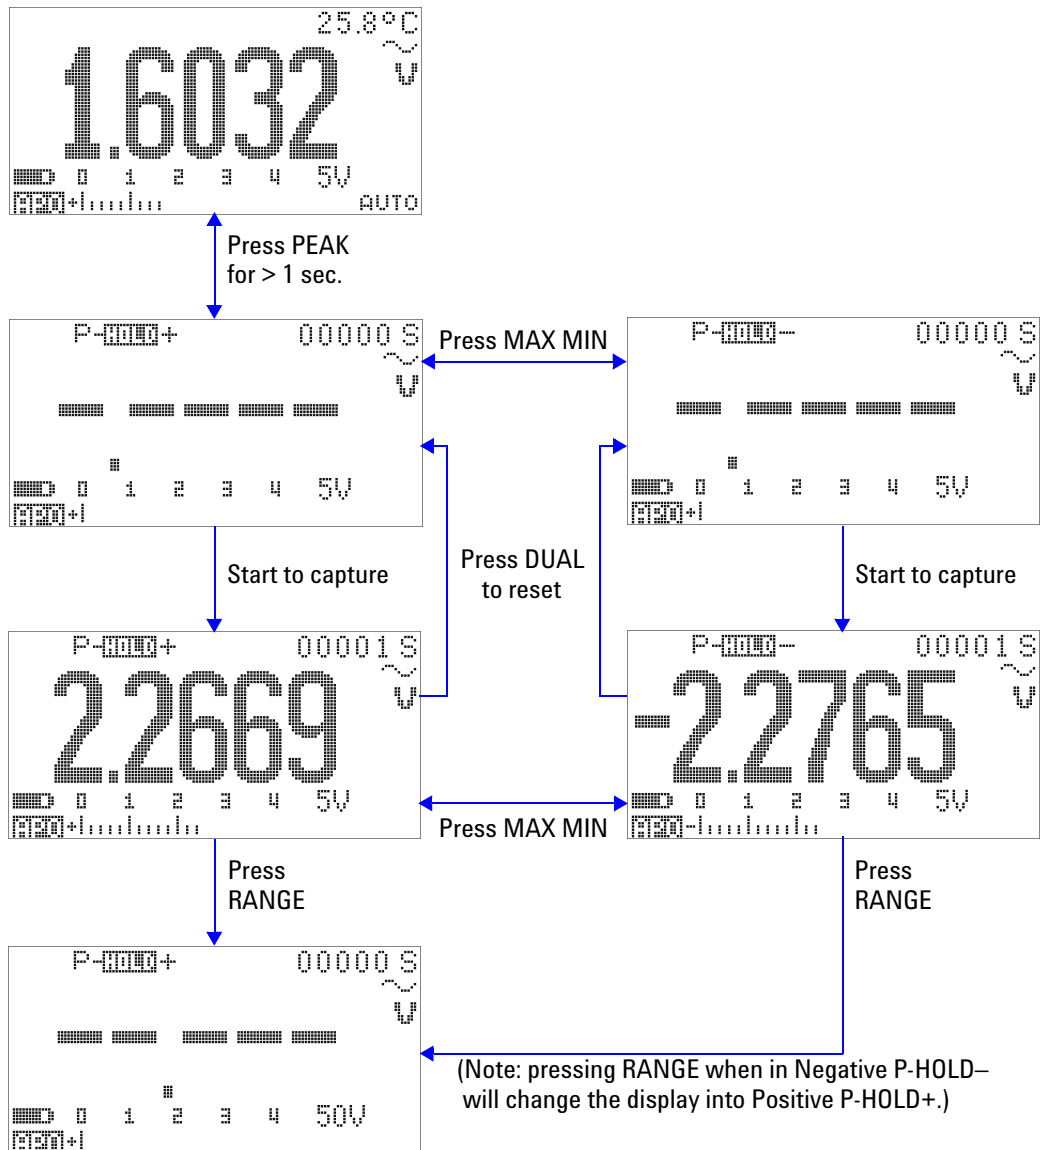

Figure 3-7 1 ms peak hold mode operation
- 4 In the measurement example shown in Figure 3-7 on page 68, the crest factor will be $2.2669/1.6032 = 1.414$.